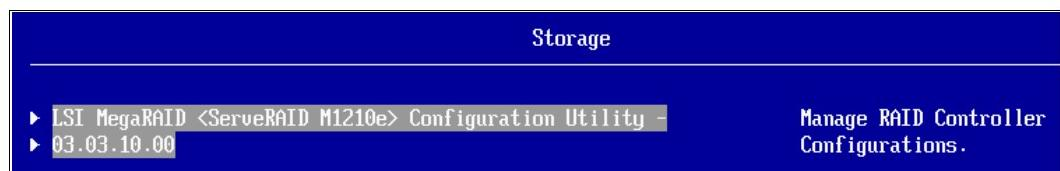

Figure 5-18 Launching the MegaRAID Configuration Utility for the ServeRAID M1210e
1. Enter UEFI setup by selecting **F1** when prompted at boot time. Access the LSI Configuration Utility from the menu by selecting **System Settings** → **Storage** → **LSI MegaRAID <ServeRAID M1210e> Configuration Utility**, as shown in Figure 5-18.